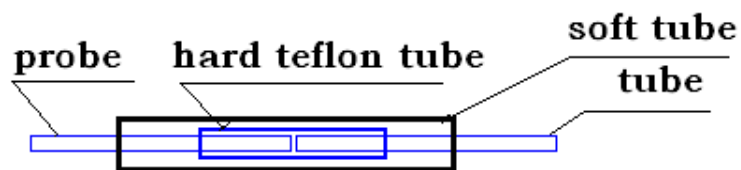

Figure 9-3
- 4, Install a new probe and a soft tube. The structure of the soft tube is as the below figure 9-3 shows.